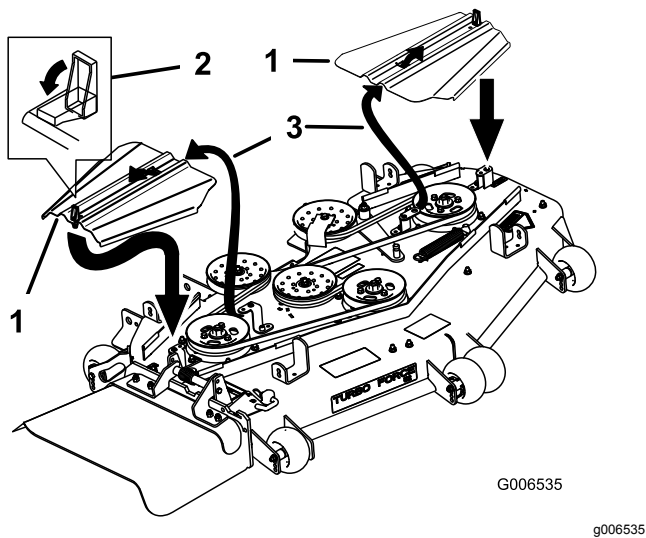

Figure 83
14. Install the belt covers by sliding the cover into the tab, install the bolts, and close the latches (Figure 83).